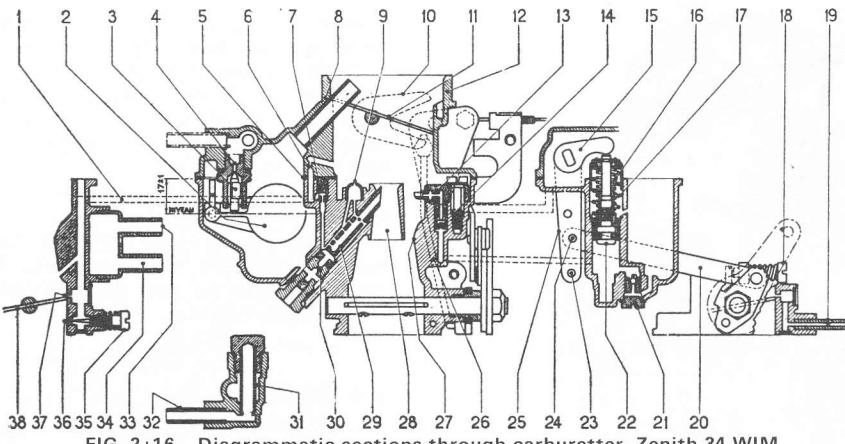

FIG 2:16 Diagrammatic sections through carburettor, Zenith 34 WIM
- 10 Install the pump check valve and strainer assembly, and the idle mixture adjusting screw (see FIG 2:13). Turn the screw in until it lightly touches its seat, and then back it out two turns for a preliminary adjustment.
- 11 Replace the starter unit (see FIG 2:14). No gasket is needed. Move the control lever back and forth to make sure that it is free. The starter unit takes the place of a choke by admitting more fuel when the control lever is pulled back to the start position.
This type of carburettor will be found on some engines in place of the Solex which it very much resembles as will be seen from the exploded view in FIG 2:15 and the sectional diagram of FIG 2:16.
Key to Fig 2:16